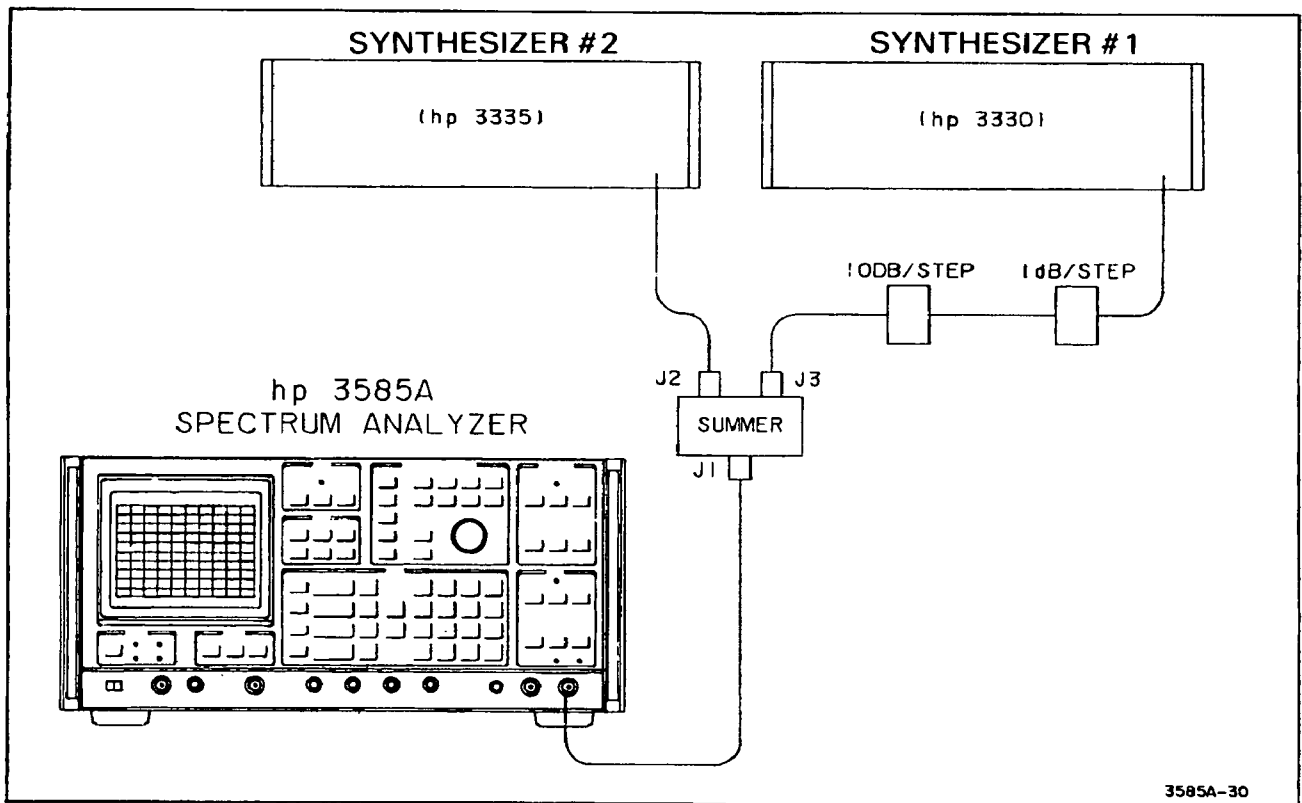

Figure 4-23. Intermodulation Distortion Test.
- b. Connect synthesizer #1 and #2 to the summer as shown in Figure 4-23. Connect the output of the summer to the 50Ω input of the 3585A. Set the attenuators for 0 dB of attenuation.
4-90. Up to this point the 3585A has been checked only as a bench operated instrument. If the instrument is to be used with a controller, the HP-IB interface should be checked. The program shown in Figure 4-23 will check the HP-IB operation of the instrument to a high level of confidence. This program is flow charted using controller independent language (meta message) so that it may be adapted to your controller. If you have a -hp- 9825A calculator, a listing of this program appears in Table 4-14. The program is also contained on File 26, Trace 0 of the Semi-Automatic Performance Test tape (P.N. 0]3585-10001). If an error is detected in the HP-IB interface of the 3585A, an error number will be printed out. The error definitions are contained in Table 4-13 and may be used to help locate problems on the 3585A HP-IB board.